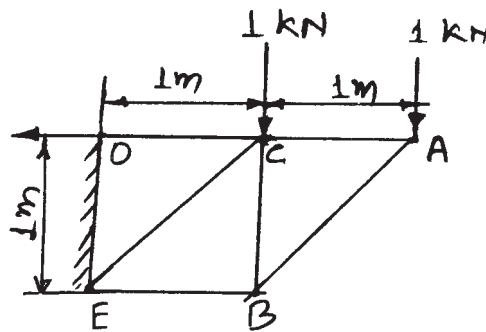

Fig. No. 3
- A cantilever truss is loaded as shown in Figure No. 3. Find the forces in the members by method of joints. Also calculate the reactions at D and E.